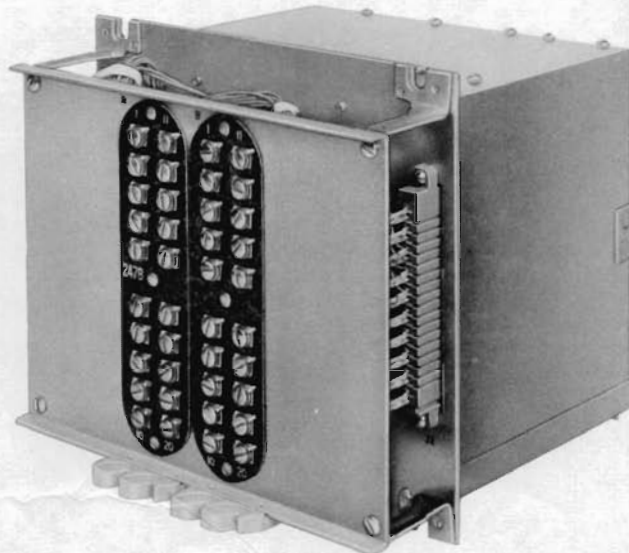

Fig. 8 — 247B TOUCH-TONE Adapter, Rear View
2.07 External connections to the 247B KTU are made to two twenty-terminal screw type terminal boards (Fig. 8).